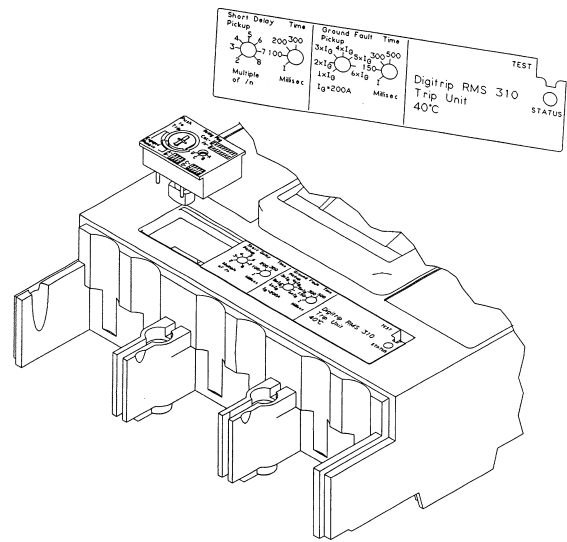

Fig. 2-7 Rating Plug Installation
- Position the rating plug as shown in Fig. 2-7.